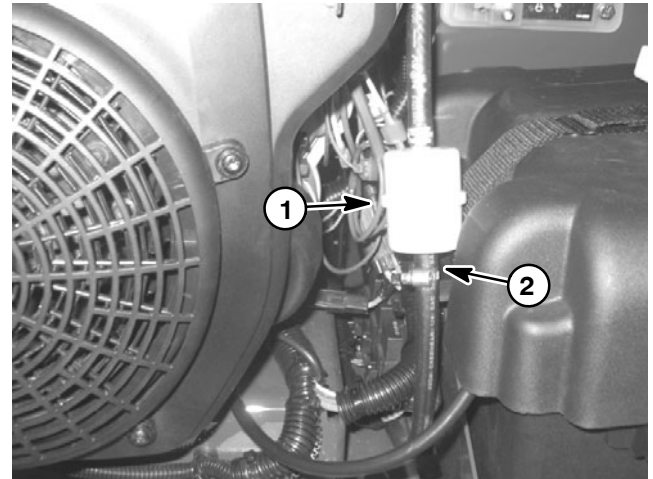

Figure 7
5. Loosen hose clamp that secures fuel hose to fuel filter inlet (Fig. 7). Remove fuel hose from fuel filter. Plug fuel hose to prevent leakage and contamination. Make sure to clean up any spilled fuel. Position disconnected fuel hose away from engine.
10. Remove plug installed in fuel hose during engine removal process. Connect fuel hose to the fuel filter inlet and secure with hose clamp (Fig. 7).